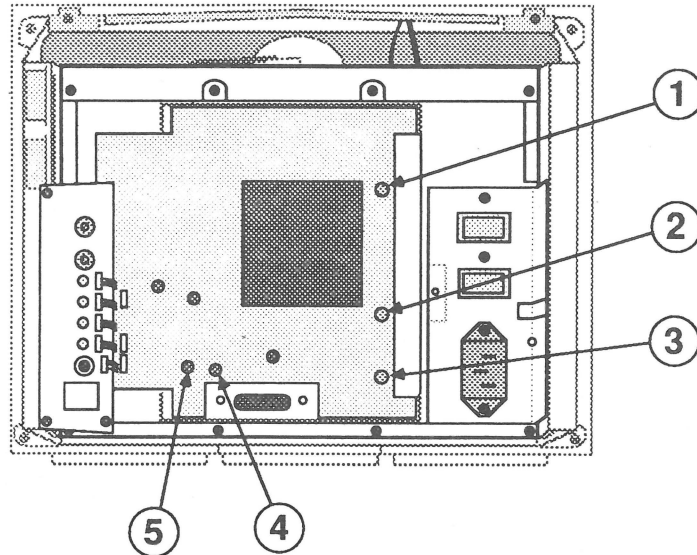

FIGURE 10
8. If the three dark bars (bars 1, 2, 3) now show a predominant color, readjust the **background** controls (Figure 10, #1, #2, or #3) of the two nonpredominant colors until only shades of black and gray are visible.
9. Adjust the **subcontrast** (SUB CONT) control (Figure 10, #4) so that the luminance in the middle of bar 8 measures at the mid "9" scale of the light meter.
10. Adjust the **sub-brightness** (SUB BRT) control (Figure 10, #5) so that the left-most bar (bar 1) of the test pattern is completely black and the next bar (bar 2) is barely visible.